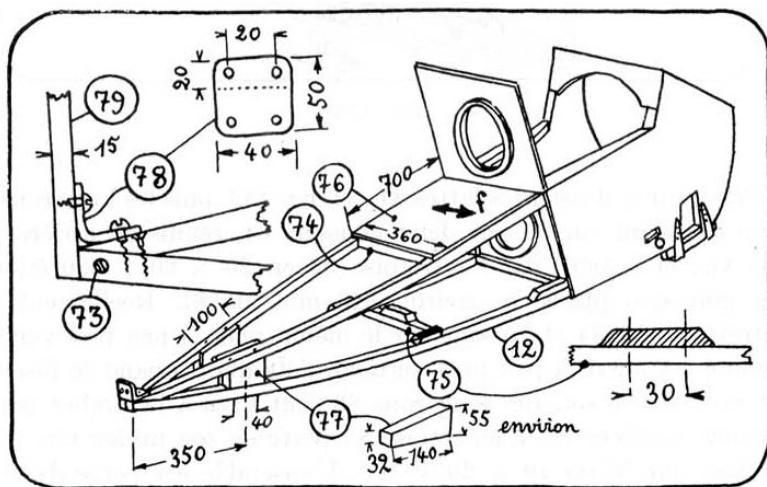

Figure 3.16: Rear point
Join longerons ⑫ and ⑯ in a point (*fig. 3.16*) with a wood screw ⑬ 4 × 40 with a countersunk head, making sure to insert members ⑭ and ⑮ 700mm from the seat back. Put in place the luggage-box floor ⑯ of 3mm stock, and two hardwood wedges ⑰ fastened with 2 4 × 40 round-headed screws spaced 40mm apart, reinforced internally with pieces of 3mm plywood with the grain vertical.